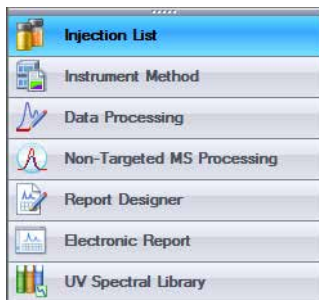

Figure 19: Category Bars
- **Category Bars** (Figure 19): These switch the display between the six categories: Injection List, Instrument Method, Data Processing, Non-targeted MS Processing, Report Designer, Electronic Report and UV Spectral Library.